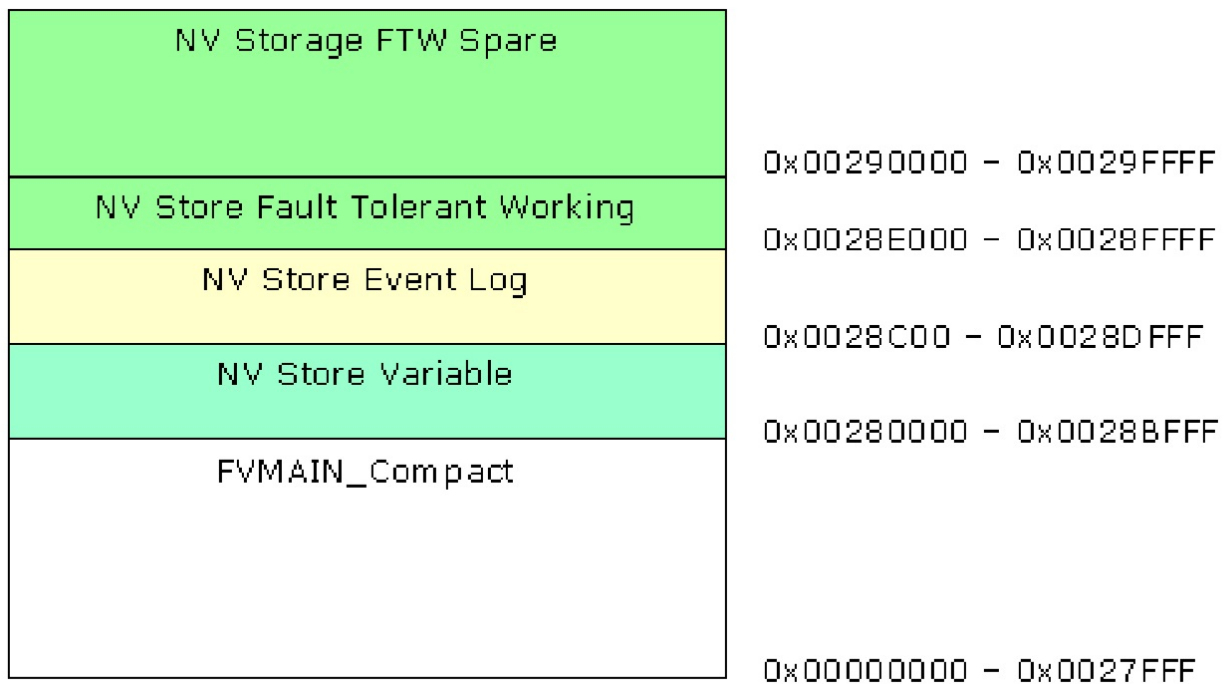

Figure 4 NT32 Flash Device Layout
While a flash part layout is specific to a given platform, there are some generalizations that apply. The SEC and PEI code is typically put into a "RECOVERY" location, while all remaining sections are put into the "MAIN" location. The MAIN section may be compressed for size optimization, provided the PEI or SEC code contains appropriate decompression drivers. The PI specification defines only standard EFI compression; if other compression mechanisms (or verification mechanisms, such as CRC32) are required, then both the tools for creating a compressed image and a library for decompressing the image must be provided. These non-standard compression, encryption, signing or verification mechanisms are applied to a GUIDED encapsulation section. Each method needs a unique GUID, however the methods may be applied to images more than once per FD image. This is done in order to facilitate recovery and updates (called capsules). Other areas in flash may be reserved for non-volatile (NV) data storage, fault tolerant working (FTW) space or vital product data (VPD) areas. These other regions are not defined in the PI specification, and implementation is left to the platform integrator. The reference design Nt32 Platform emulation environment contains a virtual flash device. The content within this virtual FD is laid out per Figure 4.